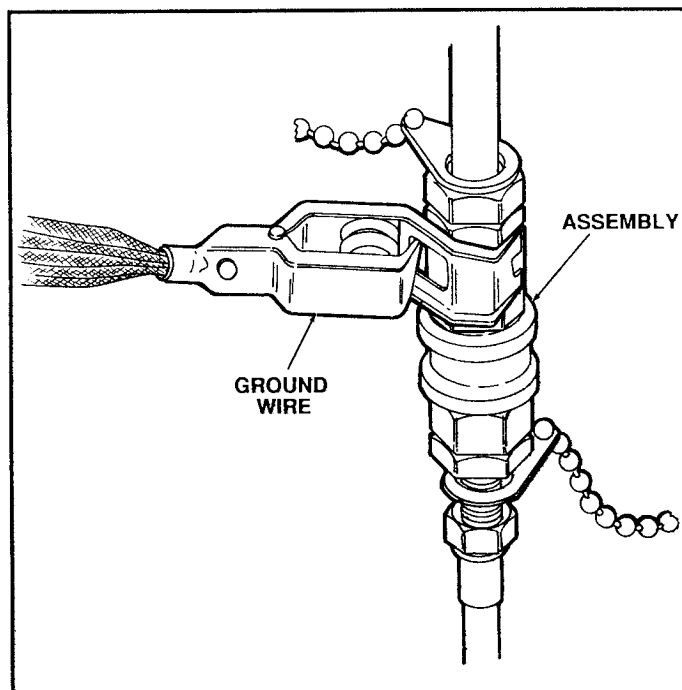

Figure 2.10 Attachment of Ground Wire to Assembly
- d. Attach ground wire: place one end of the ground wire on the assembly and the other end on grounded metal (such as to an automobile bumper). See Figure 2.10 for example of assembly placement.
- b.** Attach ground wire: place one end of the ground wire on the assembly and the other end on grounded metal (such as to an automobile bumper). See Figure 2.10 for example of assembly placement.